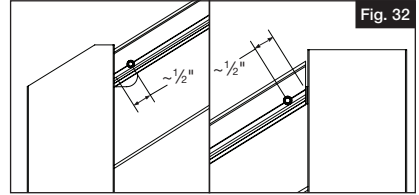

Fig. 32
- b. Place beam between posts and press onto brackets. Use provided hex head screws and attach one screw at the end of the beam at each post (one at upper post and one at lower post). Use the line etched into the beam as a guide for your screw. Screw should be on the line and approximately $\frac{1}{2}$ " from the end of the beam (Fig. 32).